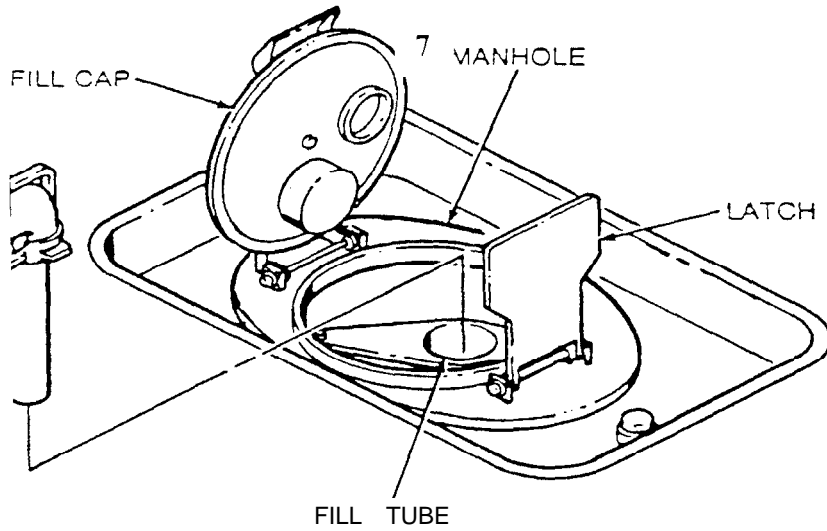

Figure 2-6 " Tank Manhole Access "
(3) Open the manhole cover (7, figure 2-6) and check the inside of the tank to be certain it is clean and free of condensation or foreign matter. If clean close cover. If not clean, refer to para 2-1.